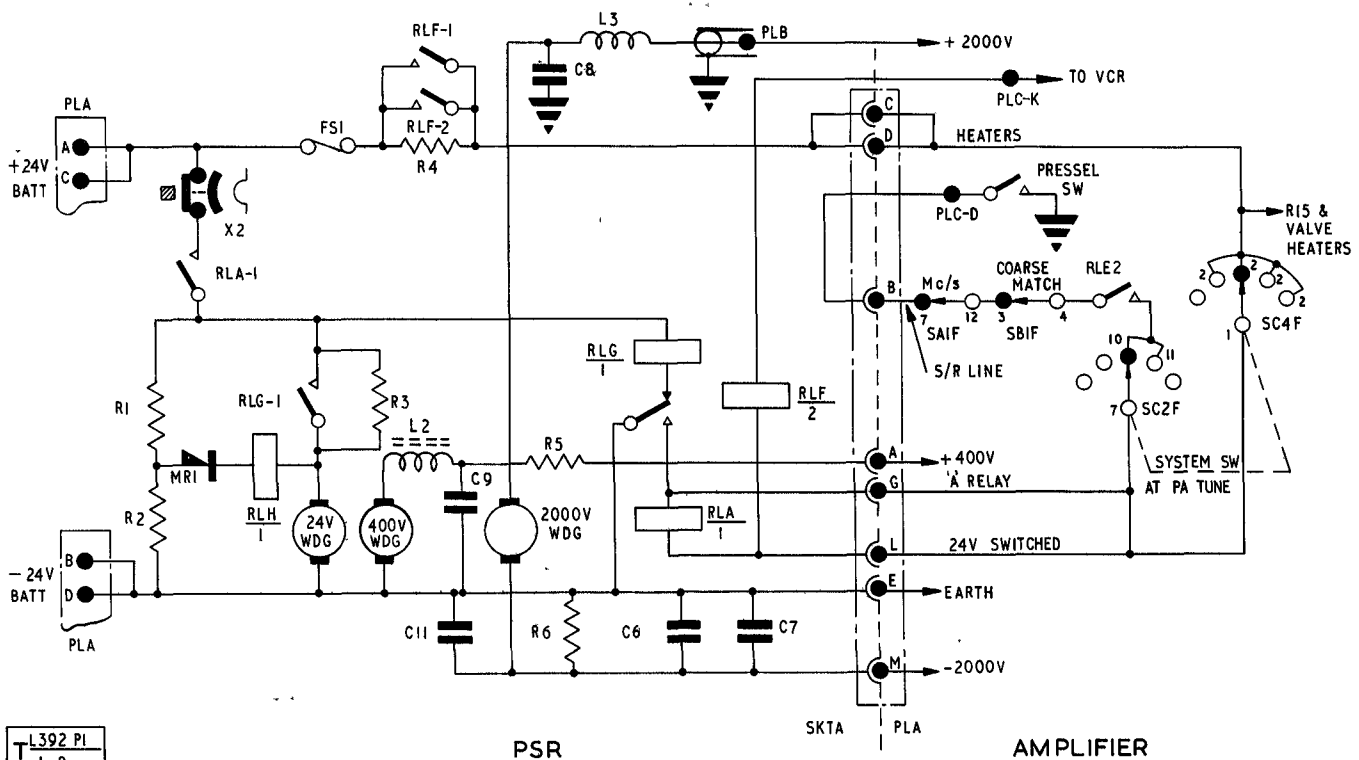

Fig 8 - Simplified diagram of P.S.R. No 47 and control relay circuits
69. The 24V supply is used to energize the primary circuit of the rotary transformer, the control relay circuits, and the heater supply for the amplifier. A simplified circuit is shown in Fig 8.
71. On initially switching on, lines G and L (SKTA) make provision for energizing RLA, but not until the amplifier system switch is set to PA TUNE; this brings the 24V through from contacts 10 and 11 on SC2F, contacts RLE2, and the interlocks provided by COARSE MATCH (SB1F) and the Mc/s switch (SA1F), link (S/R) ON PLA-SKTA(B) and thence to the pressel switch via the harness plug PLC.